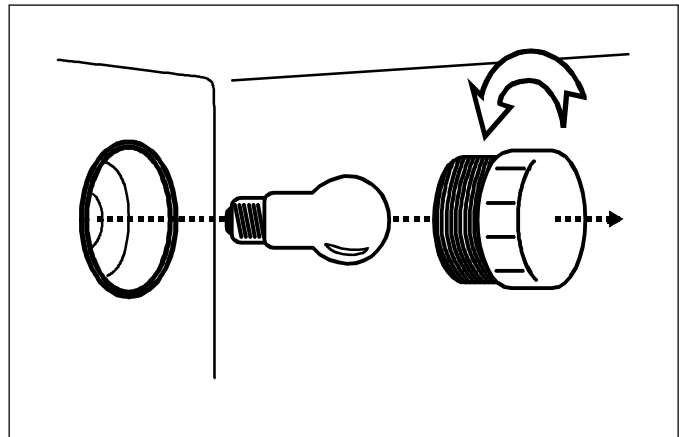

Figure 41
3. See Figure 41. Unscrew light bulb cover (counterclockwise) located in rear of oven cavity. Then turn light bulb counterclockwise to remove.